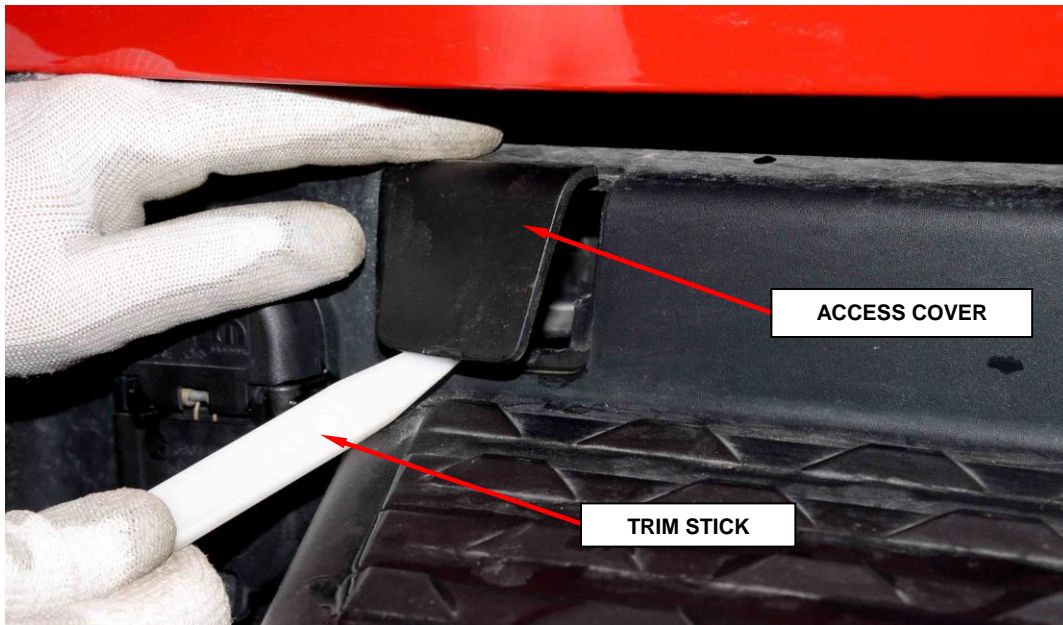

Figure 7 – Access Cover
5. Using a trim stick remove the access cover near the top right side of the rear bumper (Figure 7).
10. Reinstall the access cover (Figure 7).